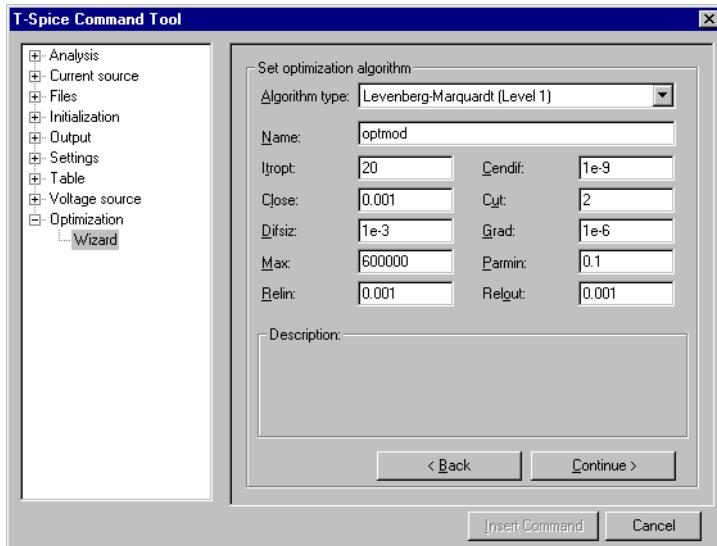

Figure 97: Customizing the optimization algorithm
- In the **Name** field, type ***optmod***. For all other values, accept the defaults (Figure 97). When you are finished, the **T-Spice Command** tool dialog will look like the following: